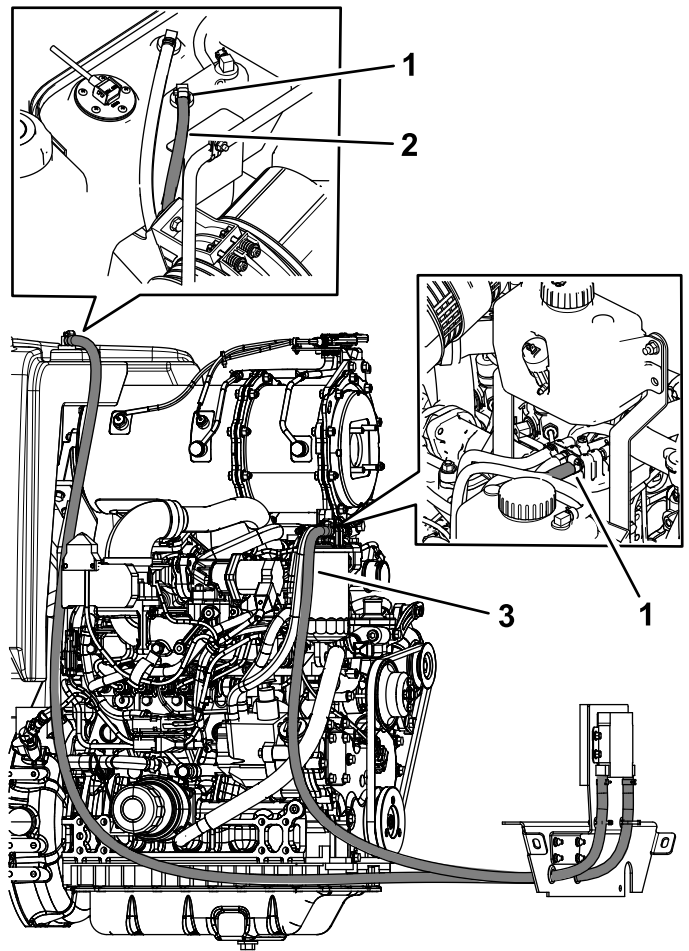

Figure 6
4. Secure the short hose to the fuel-filter connection with a worm clamp and the long hose to the fuel-tank connection with a worm clamp (Figure 6).